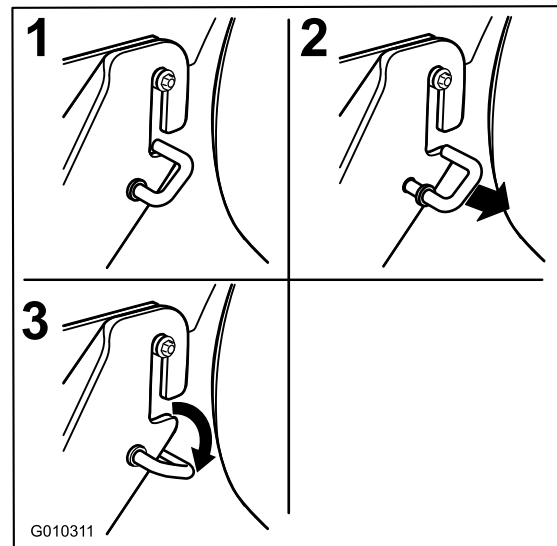

Figure 69
1. Move the spring loaded J-hooks out of the slot in the rear hanger brackets on both sides of the deck (Figure 69).